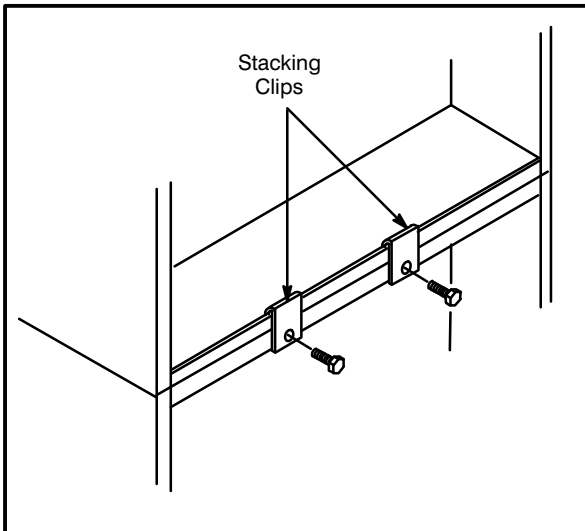

Figure 5
4. Secure the clips by bolting together with 3/8" bolts and nuts provided. See Figure 5.